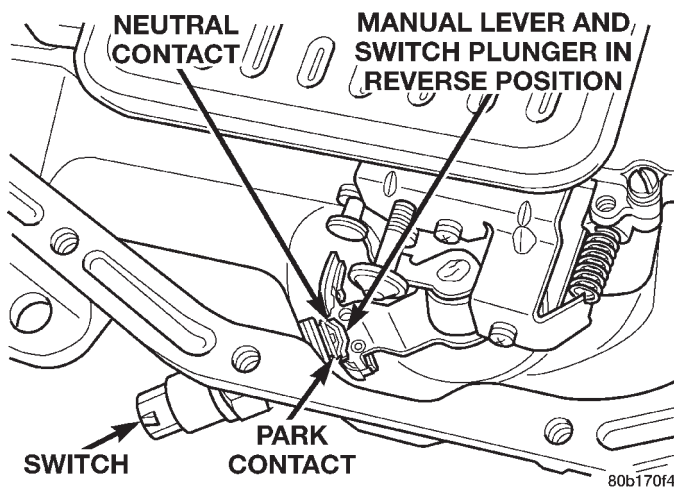

Fig. 24 Park/Neutral Position Switch
(1) Move shift lever to Park and Neutral positions. Verify that switch operating lever fingers are centered in switch opening in case (Fig. 24).